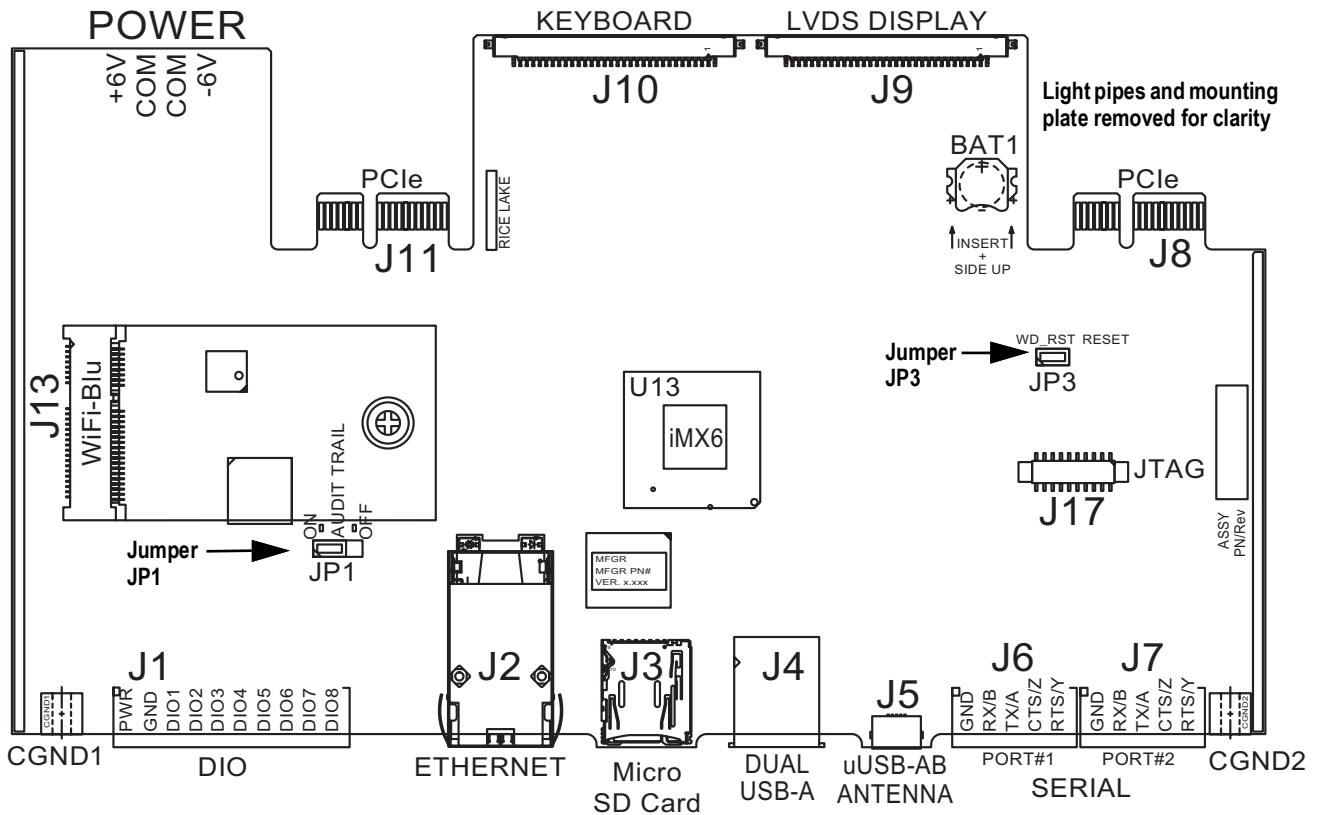

Figure 3-3. Jumper Locations
**NOTE:** To access Configuration through the front panel (by pressing the button on the touchscreen, jumper JP1 needs to be in the on (left) position. In order to restrict access to Configuration using the front panel, JP1 needs to be in the off (right) position, requiring the setup switch to access Configuration, see Figure 3-3 on page 58.